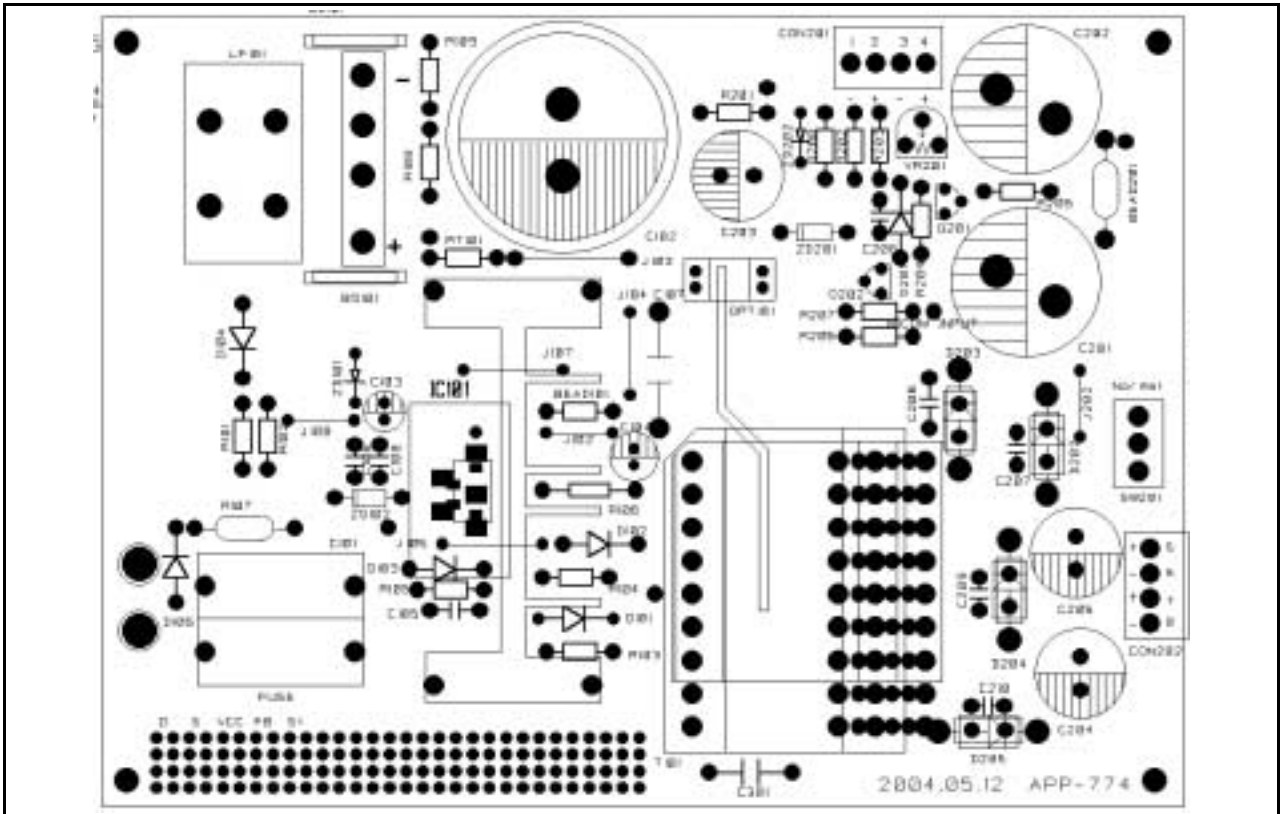

Figure 14. Layout Considerations for FSCQ1565RP
**4.2 Abnormal Over Current Protection (AOCP) :** When the secondary rectifier diodes or the transformer pins are shorted, a steep current with extremely high di/dt can flow through the SenseFET during the LEB time. Even though the FSCQ1565RP has OLP (Over Load Protection), it is not enough to protect the FSCQ1565RP in that abnormal case, since sever current stress will be imposed on the SenseFET until OLP triggers. The FSCQ1565RP has an internal AOCP (Abnormal Over Current Protection) circuit as shown in Figure 14. When the gate turn-on signal is applied to the power Sense FET, the AOCP block is enabled and monitors the current through the sensing resistor. The voltage across the resistor is then compared with a preset AOCP level. If the sensing resistor voltage is greater than the AOCP level, the set signal is applied to the latch, resulting in the shutdown of SMPS. This protection is implemented in latch mode.